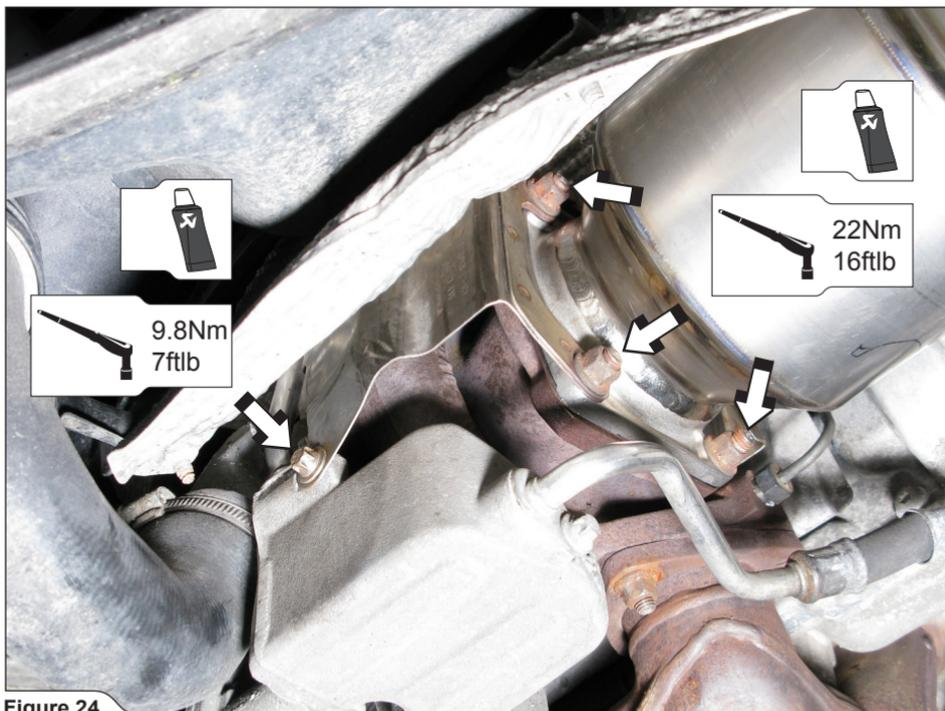

Figure 24
10. **For Slip-On with optional Link Pipes only:** tighten the Akrapovič link pipes' flanges (using four stock nuts) and heatshields' stock bolts to a specified torques on both sides of the vehicle (Figure 24).